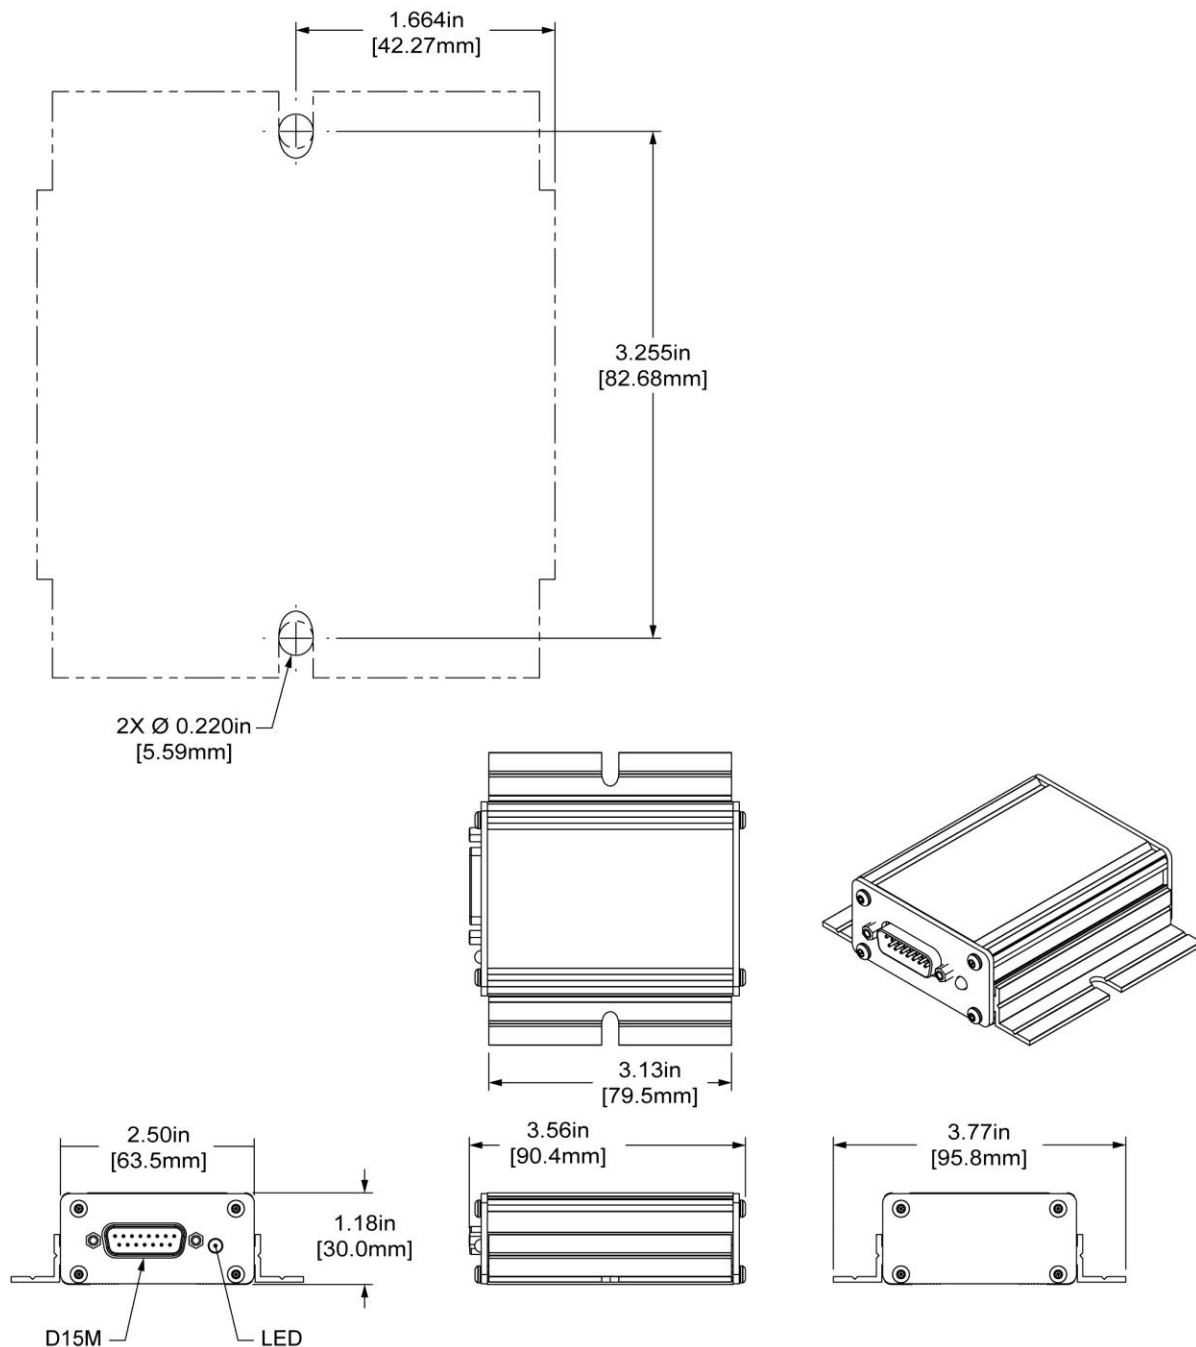

Figure 231 – SV-AP-TRIMAMP Installation Dimensions
- Mounting location should have adequate space for module, electrical connections, and servicing (see Figure 231 for mounting dimensions).
2. Use Figure 231 and mounting holes on unit as template to mark hole locations on airplane structure.